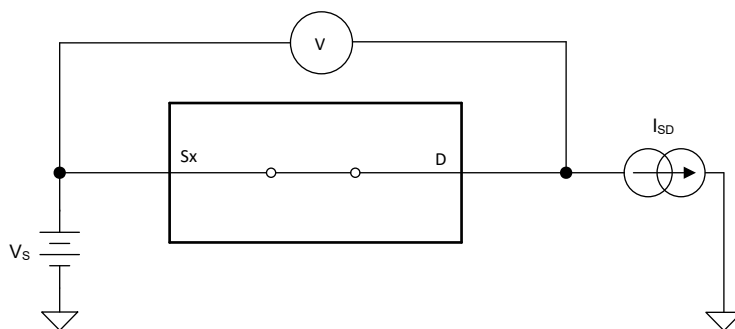

Figure 7. On-Resistance Measurement Setup
The on-resistance of a device is the ohmic resistance between the source (Sx) and drain (D) pins of the device. The on-resistance varies with input voltage and supply voltage. The symbol R_{ON} is used to denote on-resistance. The measurement setup used to measure R_{ON} is shown below. Voltage (V) and current (I_{SD}) are measured using this setup, and R_{ON} is computed as shown in Figure 7 with $R_{ON} = V / I_{SD}$: